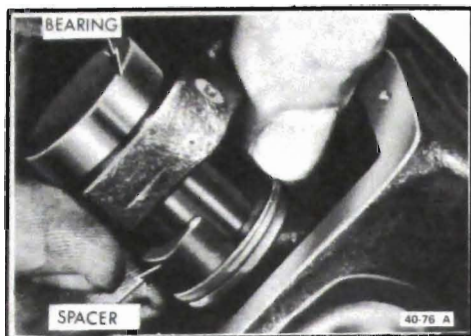

Figure 40-72 - Installing Spacer
3. Release the pump and rotate the propeller shaft to the opposite side. Repeat step 2. Install Spacer J 9522-5 over the spider journal in the space provided with the bearing forced partially through the link yoke. See Figure 40-72. Reposition propeller shaft in fixture as before and force the bearing completely out of the yoke with the added assistance of the Spacer.
6. Release the pump and install Spacer J-9522-5 over the spider journal in the space provided with the bearing forced partially through the link yoke. See Figure 40-72. Reposition propeller shaft in fixture as before and force the bearing completely out of the yoke with the added assistance of the Spacer.